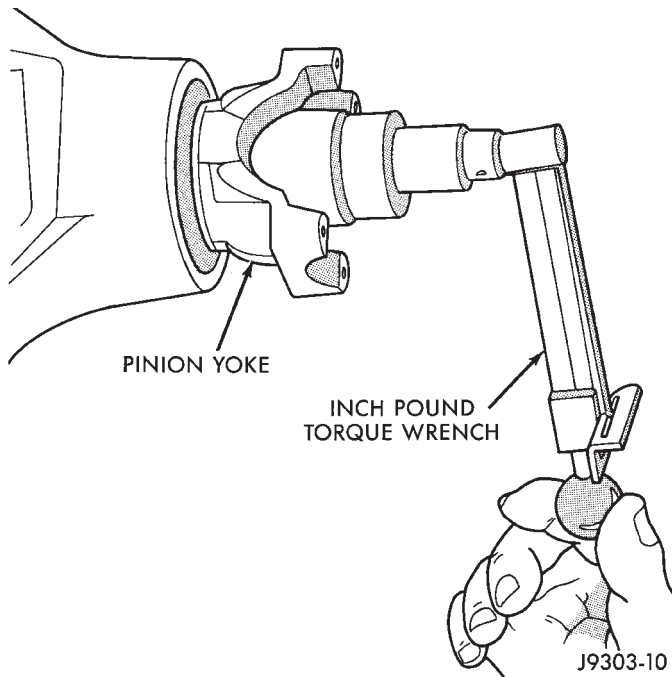

Fig. 47 Check Pinion Gear Rotating Torque
(15) Slowly tighten the nut in 6.8 N·m (5 ft. lbs.) increments until the rotating torque is achieved. Measure the rotating torque frequently to avoid over crushing the collapsible spacer (Fig. 47).
(16) Check bearing rotating torque with a (in. lbs.) torque wrench (Fig. 47). The torque necessary to rotate the pinion gear should be:
(17) Install differential in housing.